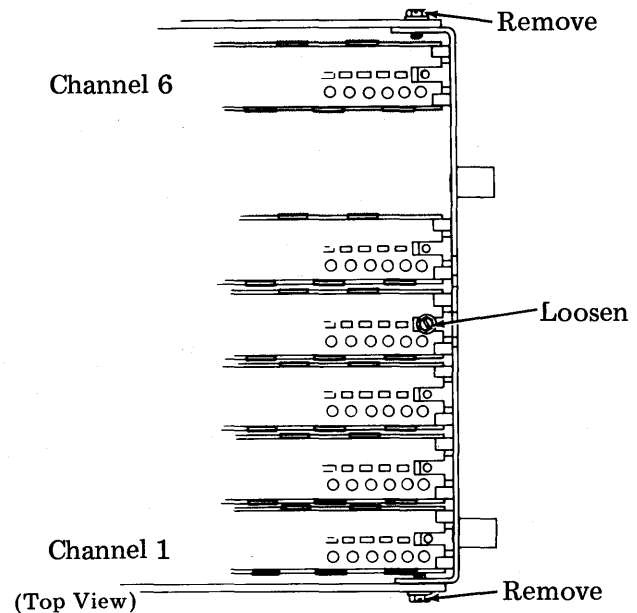

Fig. 23—Right Side Frame Removal
- (c) Remove right side frame by removing four screws and loosening one screw (Fig. 23).